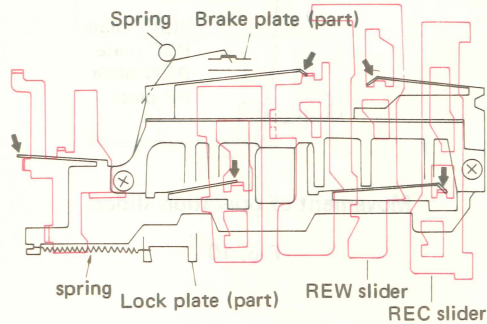

Fig. 7
- (1) Positions marked by arrows are as shown in Fig. 7.
- (2) The spring is applied to the brake plate.
- (3) The spring is applied to the lock plate.